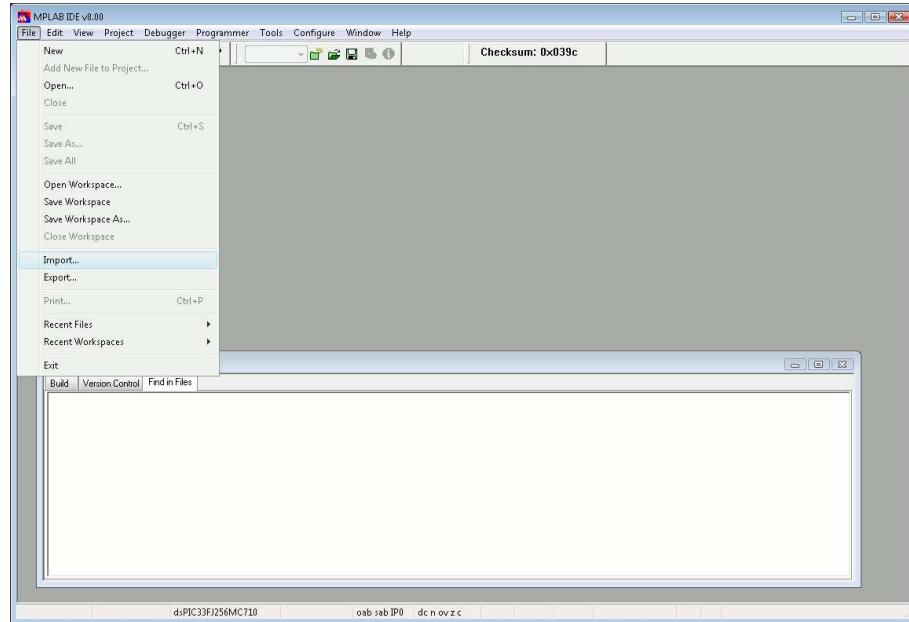

Figure 5.9: Choose “Import...” from the “File” menu to import the coff file produced in Eclipse.
9. Choose “Import...” from the “File” menu, as in Figure 5.9.